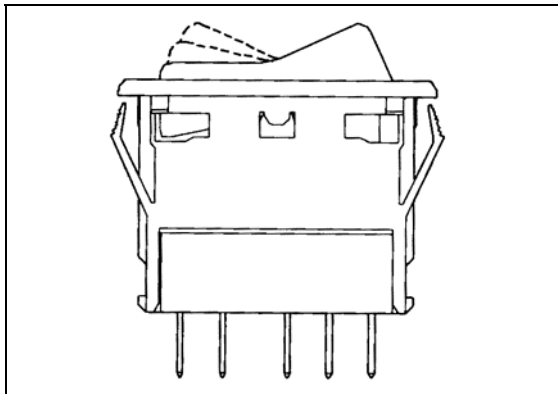

FIGURE 45: SWITCH
3. To install a new switch, reverse the procedure (Fig. 45).